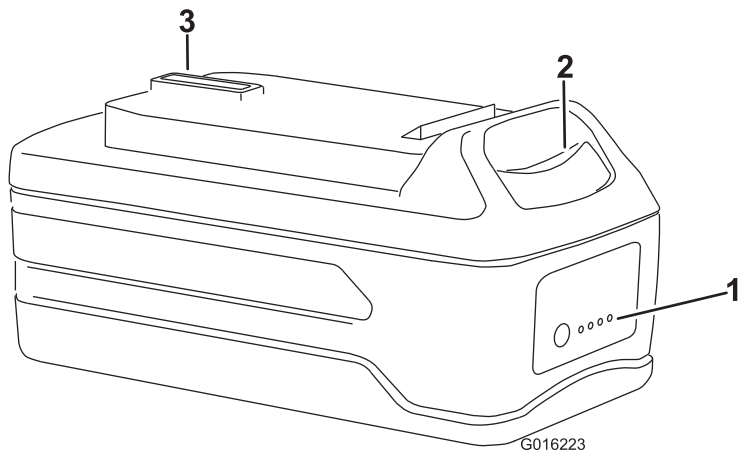
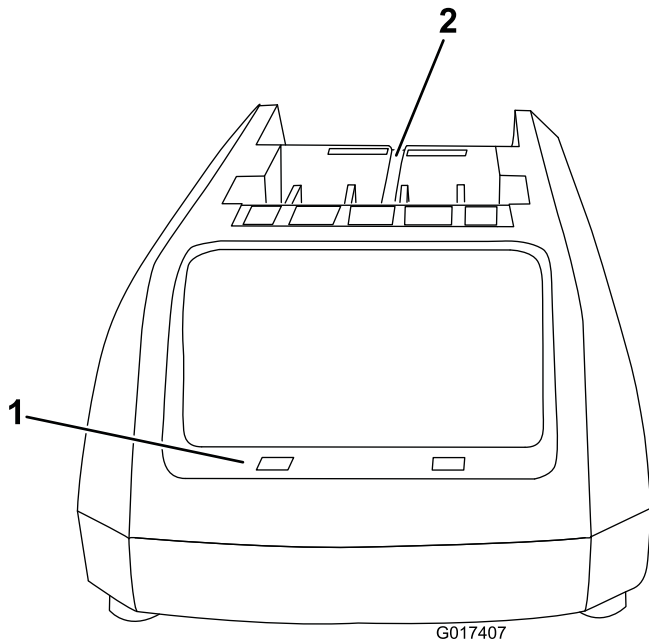

Figure 6
Figure 5
1. Turn the battery upside down and line up the battery terminal with the slot in the charger (Figure 5 and Figure 6).